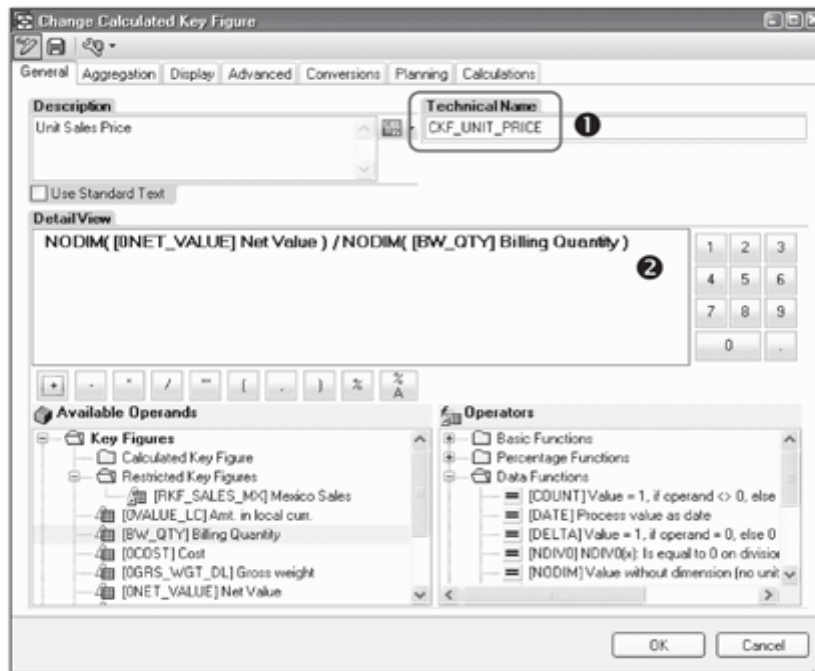

Figure 9.65 Define the Calculated Key Figure
Define the CKF in the pop-up box as shown in Figure 9.65. You have to maintain the Description and the Technical Name for the CKF (❶).